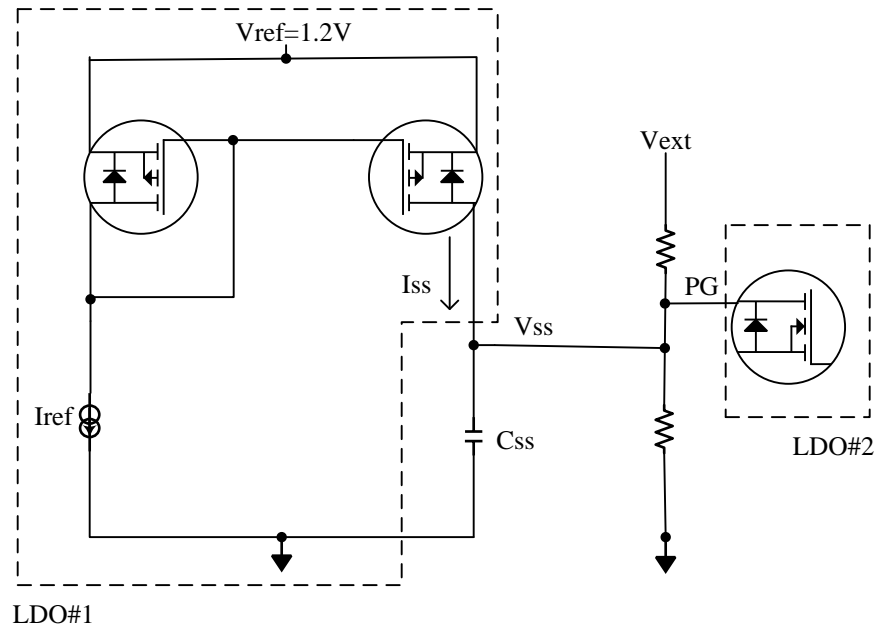

Figure 24. Sequencing LDO#1 by Power Good signal of LDO#2
Power Good pin (9) is an open drain connection and can be used to sequence multiple LDOs. Figure 24 shows typical connection. As shown, maximum voltage at PG pin must be limited to less than 1.2 V in order not to forward bias the internal MOSFET diode of PMOS current mirror circuitry.